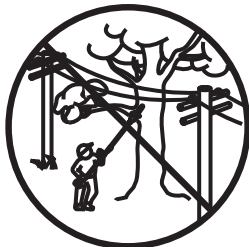

Fig. 6
3. While firmly holding the attachment, push it straight into the Convertible™ coupler until the release button snaps firmly into the primary hole (Fig. 6).
16. Do not use the pole saw near cable, electric power or telephone lines. Maintain a minimum clearance of 50 feet (15 m) from all power lines (Fig. 6).